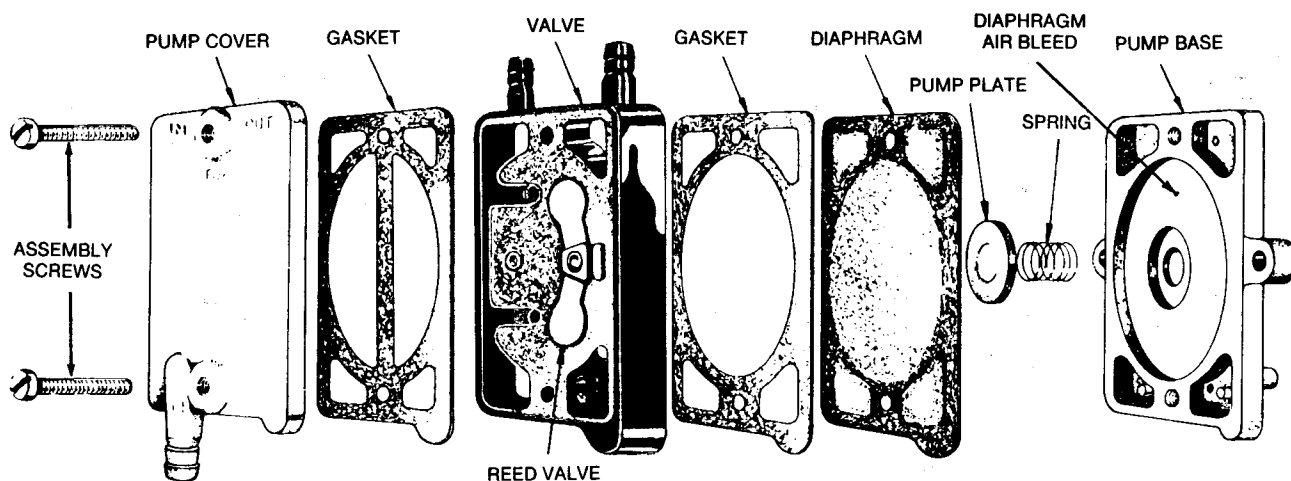

FIGURE 5. EXPLODED VIEW OF FACET FUEL PUMP
3. Holding the pump carefully, remove the assembly screws (Figure 5).